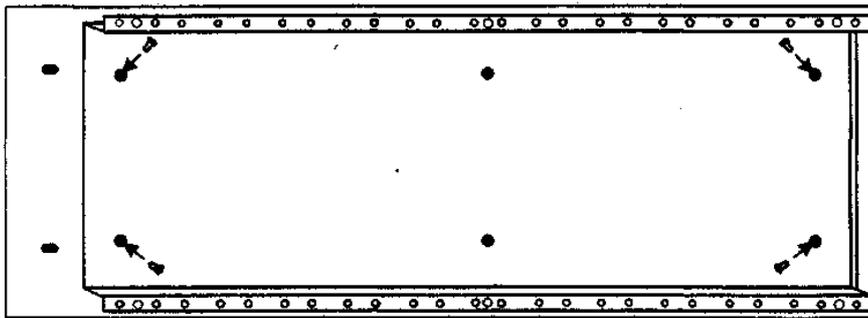

Figure 8a
- Fix the mounting plate to the top and bottom of the 19" front cover panel by using the M 4 x 12 countersunk screws of the fixing material (see figure 8a).